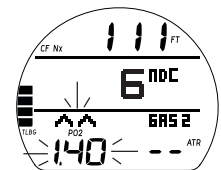

Fig. 60 - PO2 ALARM
If PO2 continues to increase and reaches the PO2 Alarm level, the Audible will sound again during which (2) Up Arrows and the PO2 value with icon will flash in place of Pressure (Fig. 60).